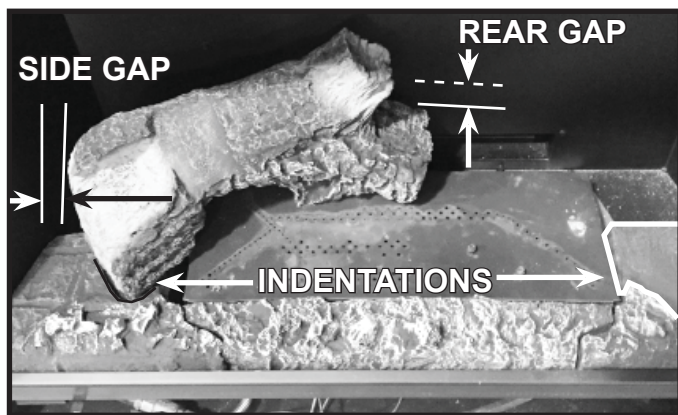

Figure 4. Install Left Rear Log
The log pins, along with the indentations in the Hearth components, will aid in correctly positioning the two rear logs and small burner log. The indentations in the hearths are shown in Figure 4.
Additionally, the rear left log and rear right log are located by visually aligning the bottom edge of the log with the indentations in the left and right hearth components. See Figure 4.
**SL-7 and SL-9 Models:** There will be about a 1 inch rear gap between the left rear log and the back wall of the firebox. There will be about a 1-1/2 inch side gap between the left end of the log and the left side of the firebox. See Figure 4.
**SL-5 Models:** There will be about a 1 inch rear gap from the left rear log to the back wall of the firebox. There will be about a 1 inch side gap between the rear left log and the side of the firebox. See Figure 4.